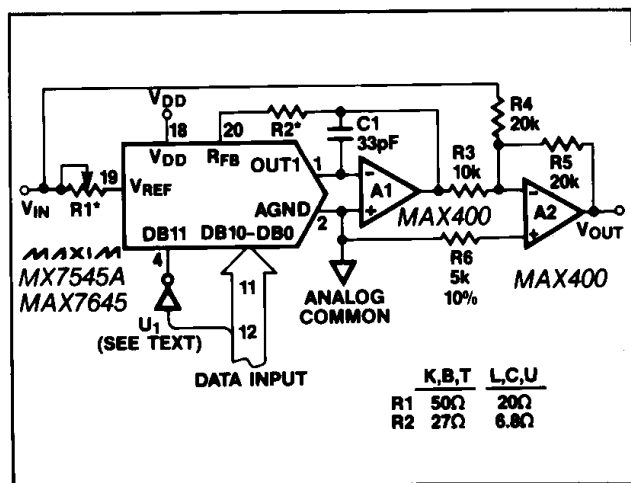

Figure 4. Bipolar Operation (2's Complement Code)
Figure 4 shows the MX7545A/MAX7645 operating in the bipolar, or 4-quadrant multiplying mode. A second amplifier and three matched resistors (R3, R4 and R5) are required. These resistors must be of the same material (preferably metal film or wire-wound) for good temperature tracking characteristics, and should match to 0.01% for 12-bit performance. The output code is 2's complement and is listed in Table 2. In multiplying applications, the MSB determines output polarity while the other 11 bits control amplitude. The U1 inverter on the MSB line converts the 2's complement input code to offset-binary code. If this inversion is done in software using an exclusive-OR instruction or the input code is in offset binary, the U1 inverter can be omitted. Table 3 shows the code relationships to output voltage for the offset binary operation.
Table 2. 2's Complement Code Table for Circuit of Figure 4
To adjust the circuit, load the DAC with a code of 1000 0000 0000 and trim R1 for a 0V output. With R1 and R2 omitted, an alternative zero trim is to adjust the ratio of R3 and R4 for 0V out. Full scale can be trimmed by loading the DAC with all "zeros" or all "ones" and adjusting the amplitude of  $V_{REF}$  or varying R5 until the desired positive or negative output is obtained. In many applications the gain adjustment will not be necessary, especially when using the parts with guaranteed maximum  $\pm 1$ LSB gain errors. In those cases, the gain can be trimmed at the reference source and resistors R1 and R2 in Figure 4 omitted. However, if the trims are desired and the DAC is operated over a wide temperature range, then low tempco ( $<300$ ppm/ $^{\circ}$ C) resistors should be used for R1 and R2.
**Figure 6. Differential Nonlinearity vs.  $V_{DD}$  for Figure 4 Circuit. Reference Voltage = 2.5 Volts. Shaded Area Shows Range of Values of Differential Nonlinearity that Typically Occur for L, C and U Grades.**
The unipolar and bipolar circuits in Figures 3 and 4 can all be converted to voltage output mode. Figure 8 shows the 2's complement bipolar circuit of Figure 4 modified to work with an output range of +2V to +8V around an offset ground potential of +5V from a single supply,  $V_{DD}$ , of +10V to +15V. The MAX673 reference is used to bias the AGND at +5V. Resistors R1 and R2 form a voltage divider together with the DAC reference
**Figure 7. Differential Nonlinearity vs. Reference Voltage for Figure 4 Circuit.  $V_{DD} = 15$  Volts. Shaded Area Shows Range of Values of Differential Nonlinearity that Typically Occur for L, C, and U Grades.**